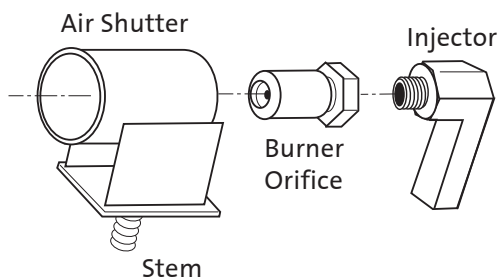

Figure 31. Burner orifice removal and replacement.
- 6. Adjust the Air Shutter:** See Fig. 31.